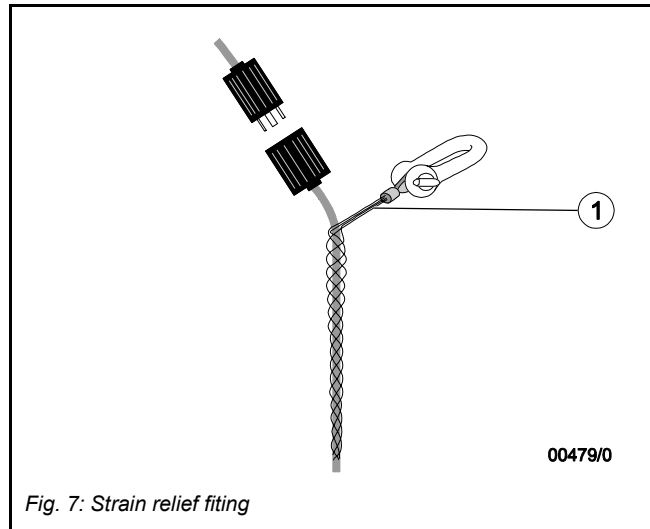

Fig. 7: Strain relief fitting
- (1) To minimize voltage drop due to power cord length on high lifts, select an outlet at the halfway point to reduce the total power cord length on the job.
- (2) In some cases, a booster transformer will be needed to compensate for power cord losses or low-source voltage. If a booster transformer is needed, call supplier.
- (3) Always secure the power cord to the platform with a strain relief fitting and shackle (Fig. 7), so the cord weight will be off the connector.